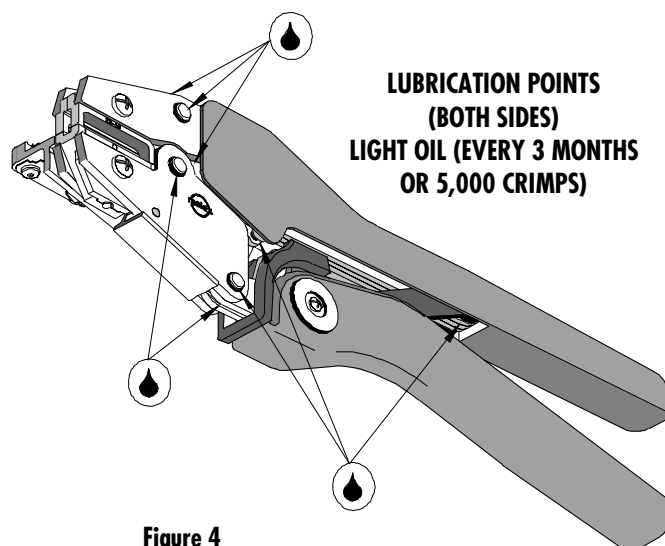

Figure 4
3. Make certain all pins; pivot points and bearing surfaces are protected with a thin coat of high quality machine oil. Do not oil excessively. The 64001-0700 (RHT-5757-CC) was engineered for durability, but like any fine piece of equipment it needs cleaning and lubrication for a maximum service life of trouble-free crimping. A light oil, such as 30 weight automotive oil used at the oil points shown in Figure 4, every 5,000 crimps or 3 months will significantly enhance the tool life and ensure a stable calibration.